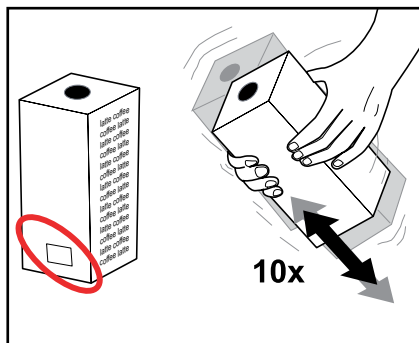

Fig. 18
Read the instructions on the product pack. Never use a damaged product pack. Do not use a product pack if the „Best before“ date has expired (fig. 18).
3. Shake the product pack at least 10 times (fig. 18).